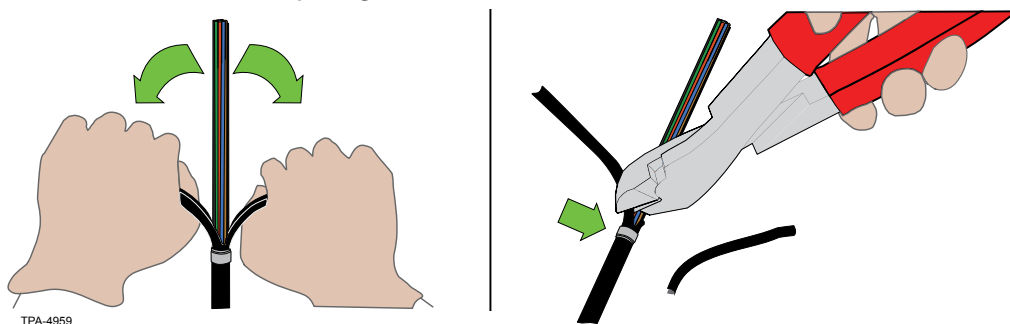

Figure 7
Step 7: Continue to remove the jacket by pulling both sides down to the tape mark and remove the jacket with side-cutter or small snips (Figure 7).